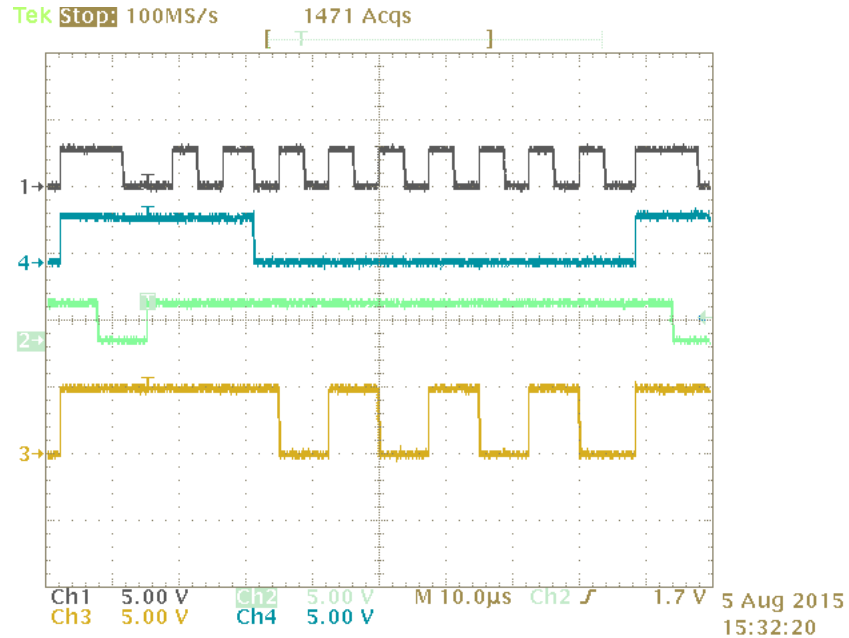

Figure 21. SN65HVD885 Application Measurements
The application traces acquired in Figure 21 demonstrate typical behavior for the SN65HVD885. The trace names in descending order are: Clock Signal (CE), Clock Enable Input (CE), Load Pulse Input (LD), and Serial Data Output (SOP).